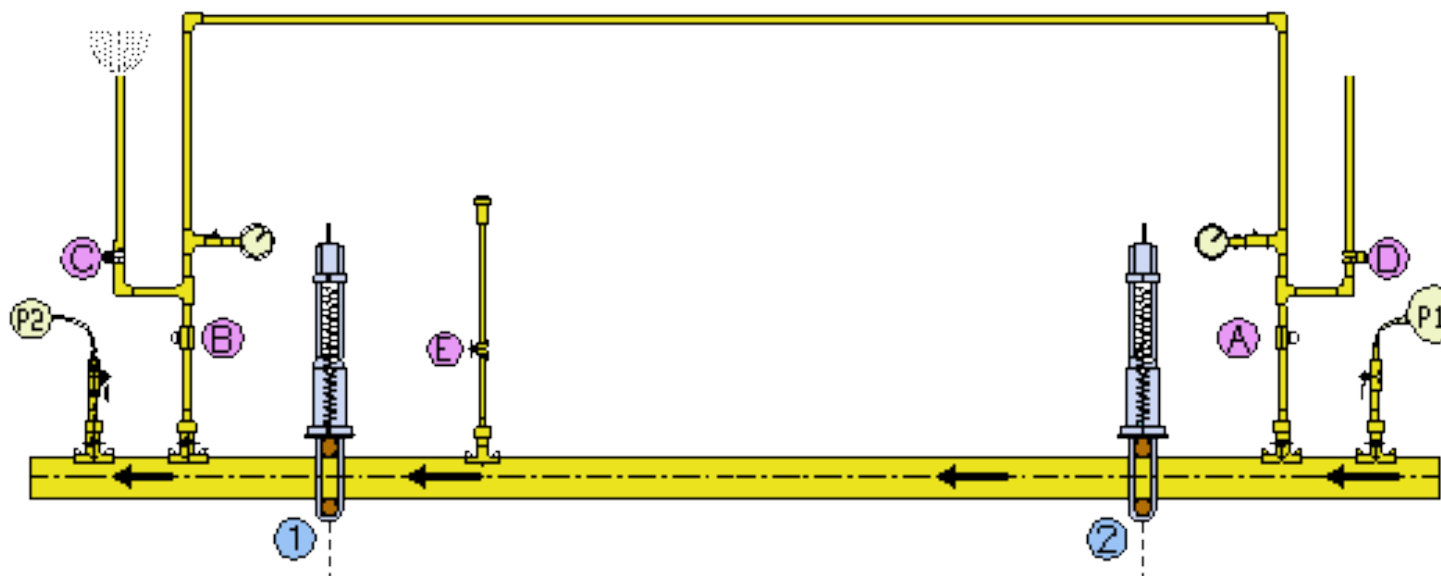

Figure 37- Bypass and Vent Points Decommissioning
1. Slowly close valve B whilst monitoring pressure. (see Figure 37)
4. Slowly close valve A and vent down bypass through vent valve C, Figure 37.